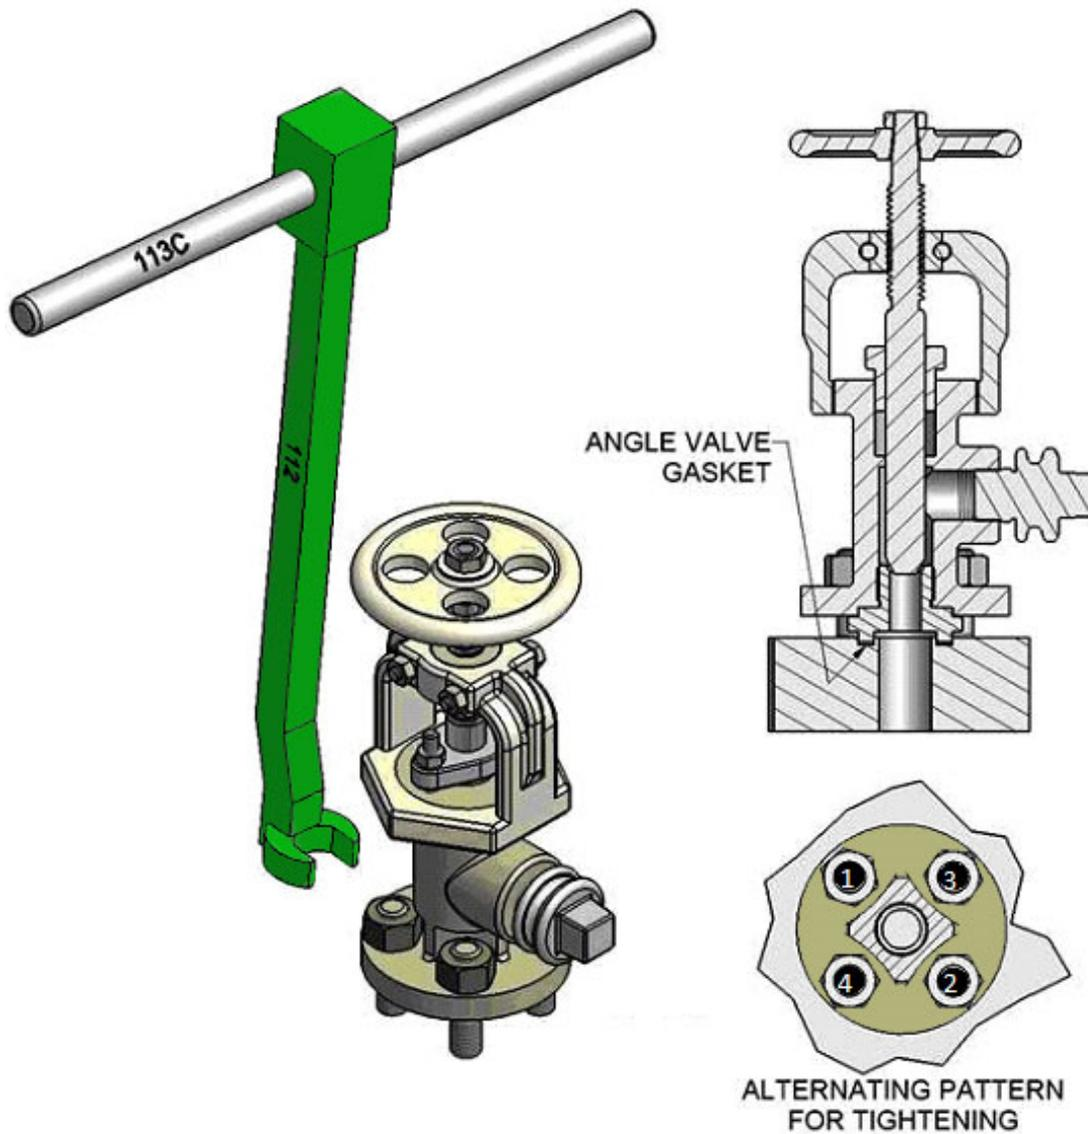

Figure 4.2 – Angle Valve Gasket Leaks and Required Tools
- A) Tighten stud nuts in an alternating pattern using WRENCH 112 and WRENCH BAR 113C (See Figure 4.2). Test for leaks.